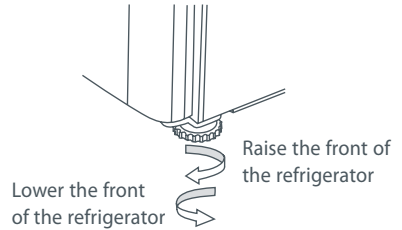

Fig.1 Refrigerator feet
- C Adjust the front feet down until the refrigerator is leaning backward with the front approximately 10 mm higher than the back. This will ensure a good door closing action. (Refer to Fig.1).